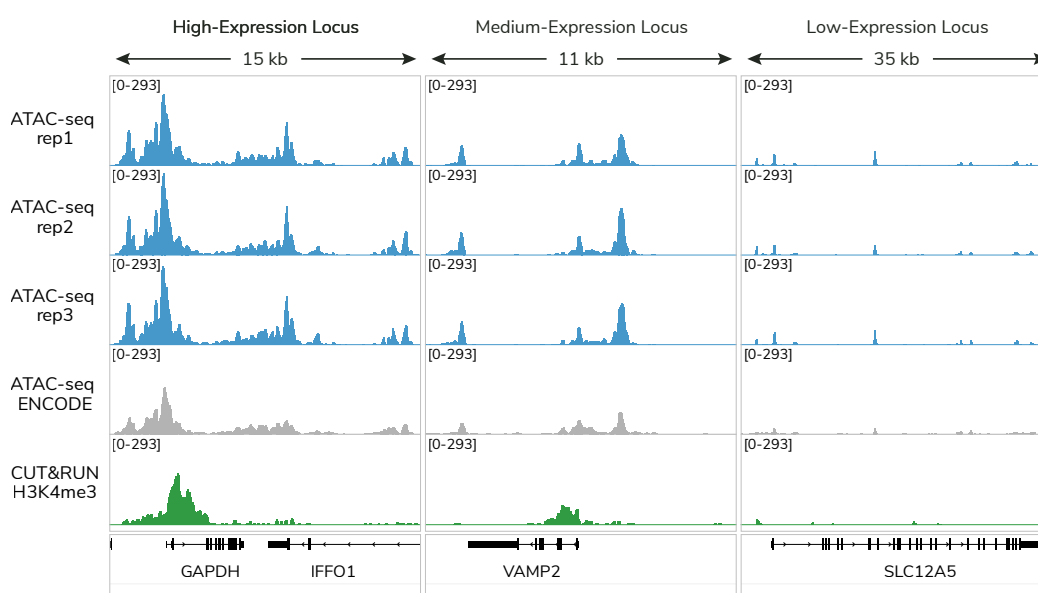

FIGURE 1
- **High-quality and reproducible data.** Consistently generates robust open chromatin profiles (Figure 1).